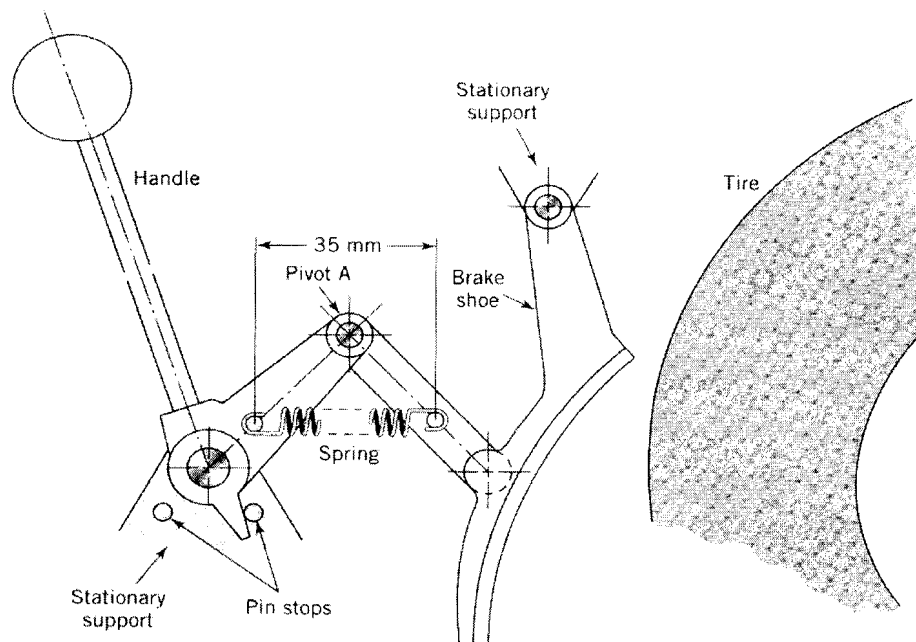

Figure 1
2.1 Figure 1 shows a wheel chair brake in its retracted position, with a tension spring exerting a force 4 N, which holds the handle against the pin stop. When the handle is moved clockwise, pivot A drops below the hold the brake shoe against the tire. Chrome vanadium (modulus of rigidity $G = 80.8 \text{ GPa}$), ASTM A232 spring with wire diameter 1.0 mm is used to work at lowest of pre-tension.